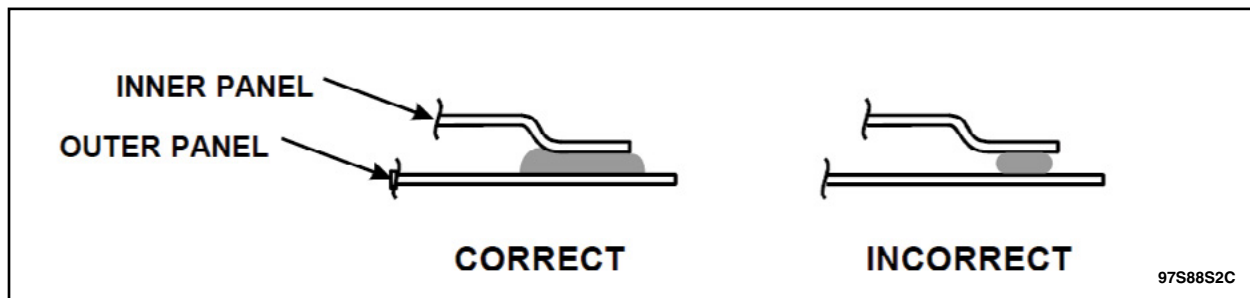

FIGURE 3
- If gap is less than $\frac{1}{4}$ inch, perform the repairs as described in the repair procedure. Make sure that the adhesive makes a good contact with the upper and lower hood panels. See Figure 3.